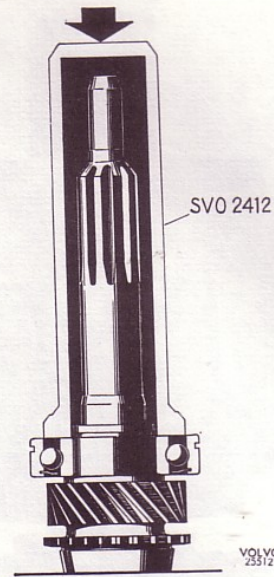

Fig. 31. Fitting ball bearing on input shaft
4. Press the bearing onto the input shaft with the help of drift SVO 2412, see Fig. 31. Select a locking ring of suitable thickness and fit it. Place the 14 bearing rollers for the main shaft in position on the input shaft. Use grease to hold the rollers in place. Press the input shaft into position in the housing. Press the sealing ring into the cover with drift SVO 2010. Then fit the cover over the input shaft. Do not forget the O-rings for the screws (late prod.).